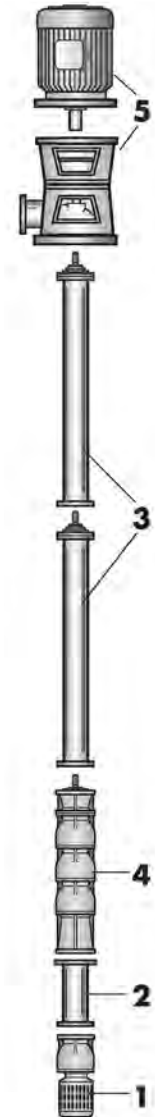

Fig. 11
Figure 11 shows the main components of a typical pump
- **1.1 FOOT VALVE (1 - Fig. 11)**
- **1.2 AXIS LINE (3 - Fig. 11)**
- **1.3 PUMP BODY (4 - Fig. 11)**
- **1.4 COMMAND UNIT (5 - Fig.11)**
- **1.4.1 with angle transmission (5.4 - Fig.11)**
- **1.4.2 with electric motor (5.3 - Fig. 11)**
- **1.4.3 with pulley (5.1/ 5.2 - Fig.11)**